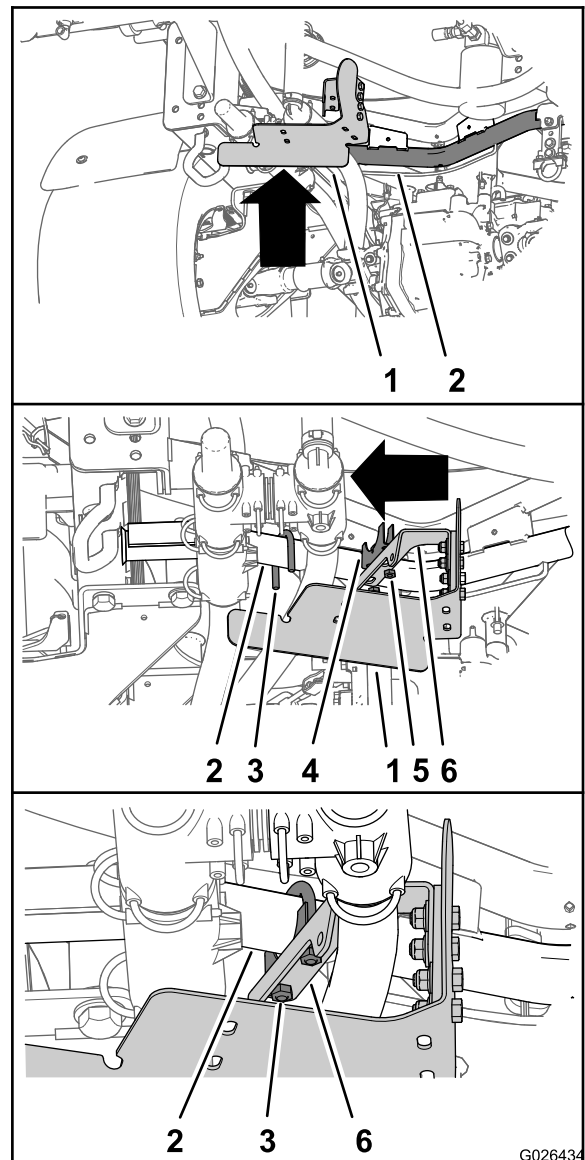

Figure 12
1. Align the muffler and tailpipe brackets that you assembled in Assembling the Muffler and Tailpipe Brackets (page 4) to the tank-support tube (Figure 12).
2. Assemble the U-bolt from the muffler clamp (1-1/2 inch) over the tank-support tube (Figure 12).
3. Attach the muffler bracket to the tank-support tube with the U-bolt (1-1/2 inch), saddle bracket (1-1/2 inch), and nuts (Figure 12).
and tank-support tube (Figure 12) to 1978 to 2542 N-cm (175 to 225 in-lb).